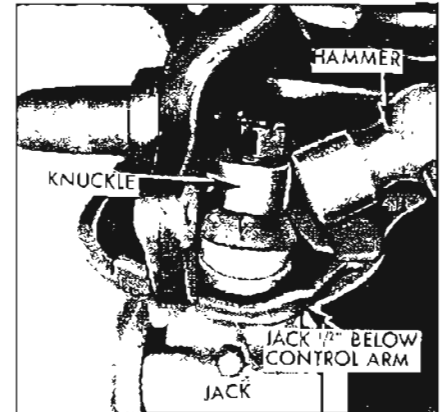

Figure 7-19—Separating Ball Stud From Knuckle
3. Loosen, but do not remove nut. Force of chassis spring will be tending to disengage ball joint tapered stud from steering knuckle. Rap knuckle sharply in area of tapered stud to disengage stud from knuckle. See Figure 7-19.
8. Rap the steering knuckle in the area of the stud to separate the stud from the knuckle. See Figure 7-19. Raise the jack against the control arm to relieve pressure on the nut, remove the